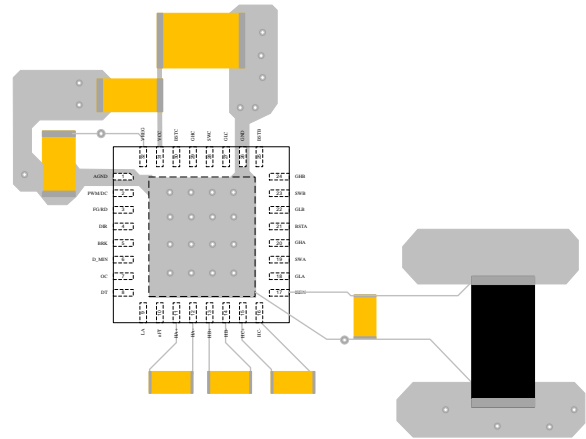
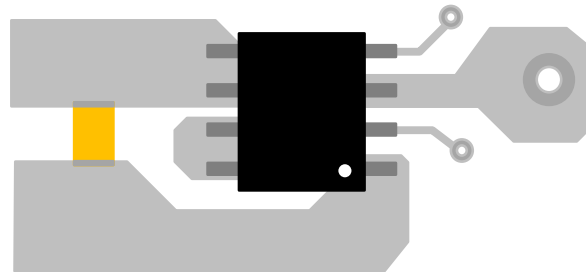

Figure 13: Recommended PCB Layout
Figure 14: A Bypass Capacitor for Each Half-Bridge
Efficient PCB layout is critical for stable operation. For the best results, refer to Figure 13 and Figure 14, and follow the guidelines below:
6. To reduce switching noise, use a ceramic capacitor for each half-bridge to minimize the switching loop trace. Figure 14 shows an example of dual MOSFETs in an SOIC-8 package.